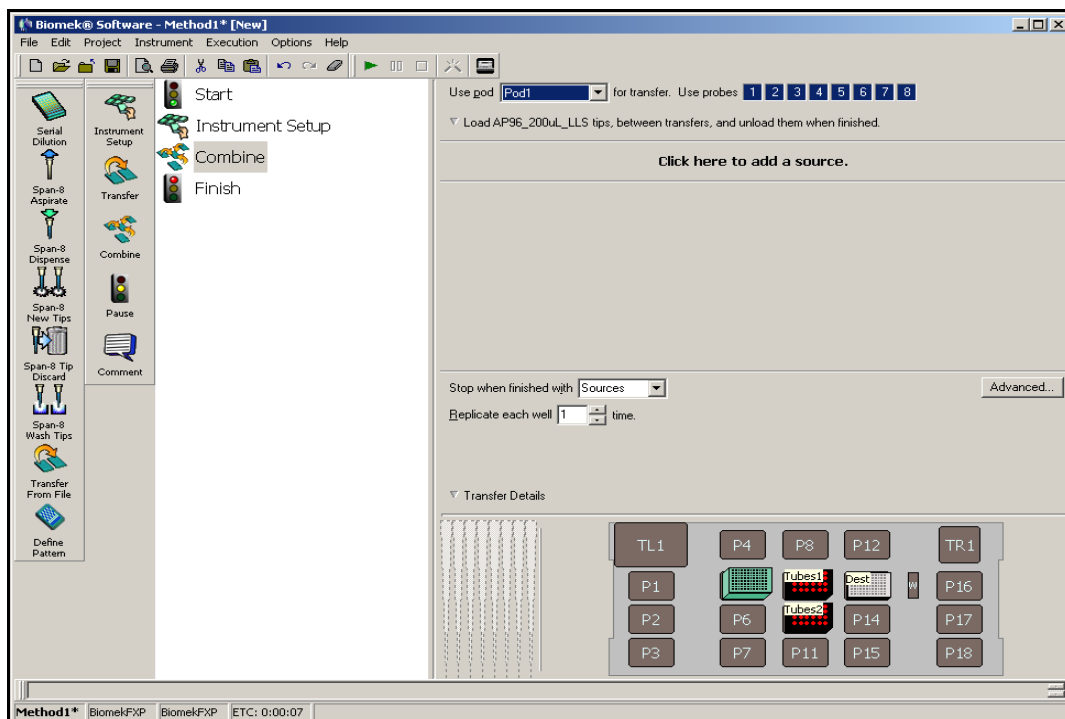

Figure 6-2. Combine step inserted and Tip Handling collapsed
3. Make sure the Span-8 Pod and all eight probes are chosen for use. See Figure 6-2.
4. Collapse the **Tip Handling** since you will use the default settings for your liquid transfer. Make sure **Load AP96_200µL_LLS tips, between transfers, and unload them when finished** is displayed. Your main editor should look like Figure 6-2.
1. Click on **Click here to add a source** (Figure 6-2)